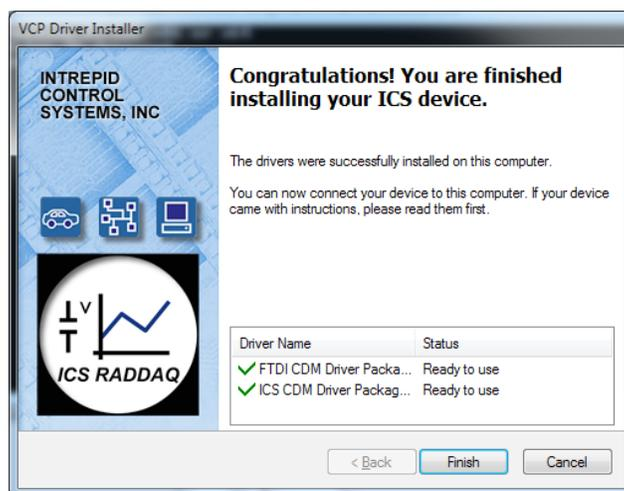

Figure 26: Hardware Driver Installation Complete.
- 12. Install Hardware Drivers:** Click  to begin installing the first set of drivers. This will usually take only a few seconds, and when completed, a message will appear like the one in Figure 26. Click  to complete this initial driver installation process.